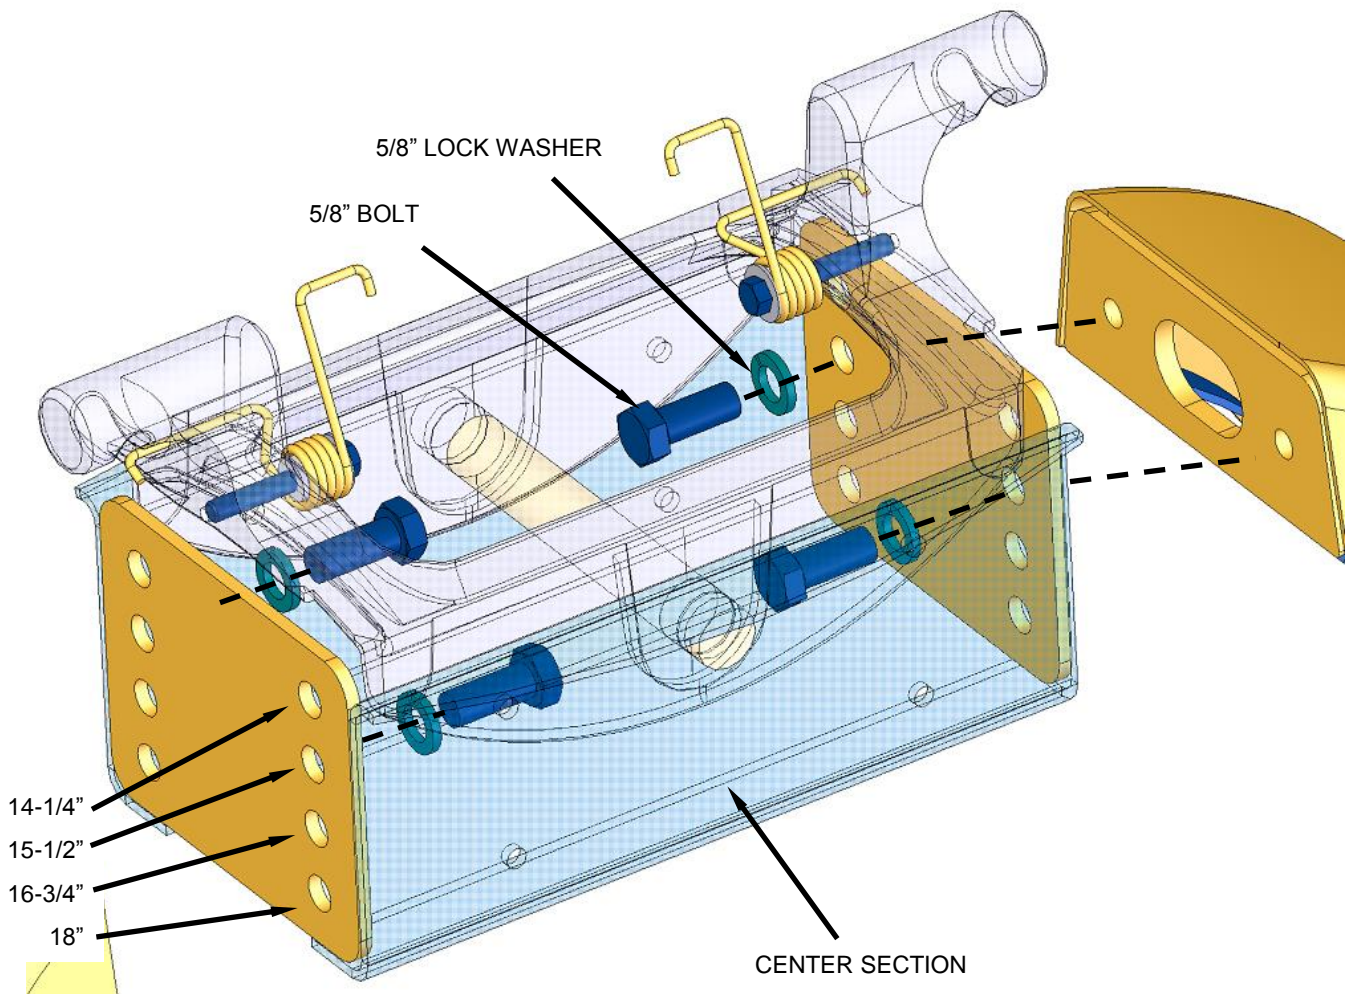

FIGURE 9
2. Determine from the Guide Lines portion of this instruction sheet (Pages 2 – 4) the height of the hitch that is required and position at the correct setting. See Chart 1 on page 7 as a guide to determine which direction to attach the center section to the base assembly. Attach the center section to the base assembly using the 5/8" Bolts and Lock washers (see Figure 9). Torque the 5/8 fasteners to 170 ft-lb. (230 N*M).